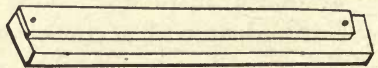
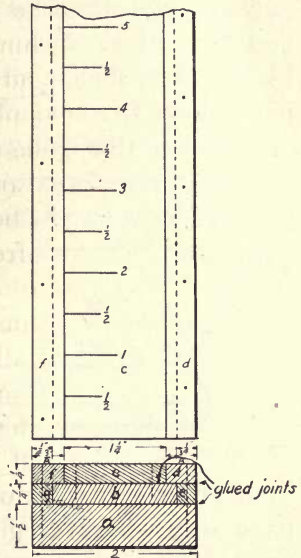

FIG. 90.—HOLDING A THIN STRIP FOR PLANING.
FIG. 91.—DETAILS OF LEVELING ROD.
Plane up the piece *a*, Fig. 91, to size, following the directions given in previous lessons as to planing up
stock. The dimensions of this piece will be $\frac{1}{2}'' \times 2'' \times 5' 6''$. As it is a thin, narrow piece, it is apt to buckle and break in planing. To prevent this, fasten the two ends to a board, as shown in Fig. 90, by boring $\frac{3}{8}''$ holes through the piece and board and driving hardwood pegs in flush with the top of the piece to be planed. Very thin lumber can be surfaced this way, and all the pieces in this exercise can be planed on the same board with the same pegs and board. Each of strips *d*, *e*, *f*, and *g*, Fig. 91, are $\frac{1}{4}''$ thick and so can be planed in one strip and cut apart afterwards. In cutting apart the strips, some lumber will be wasted, as the edges must be planed, so it will be necessary to allow for this waste and make the piece from which they are cut $1\frac{1}{2}''$ wide, although the sum of the widths is only $1\frac{1}{4}''$.
2. Assembling all pieces and shellacking. — Strip *c* should now be glued and nailed to strip *b* in the position shown in Fig. 91, end view.
little at *a*; this will make it bind on the rod and cause it to stay wherever placed without holding. Saw off the top 6" of the part *adefg*, Fig. 91, and fasten to part *bc* with two screws.